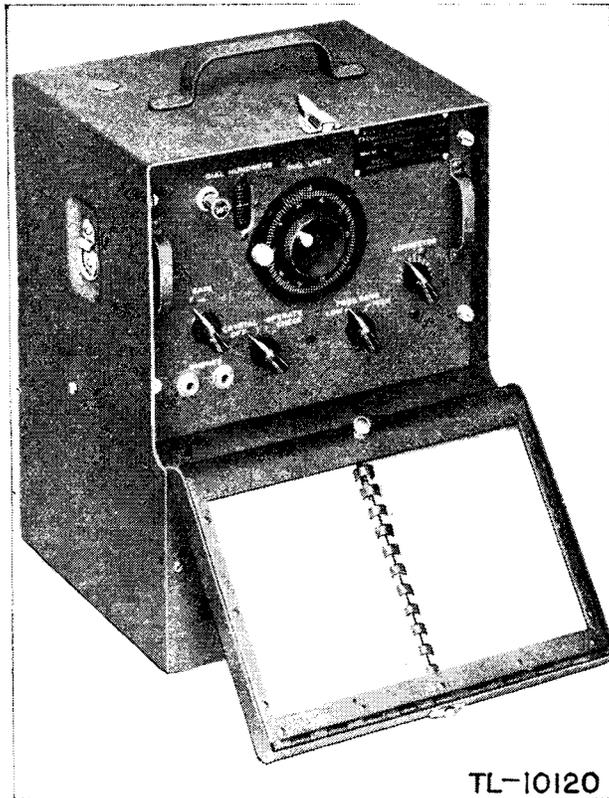
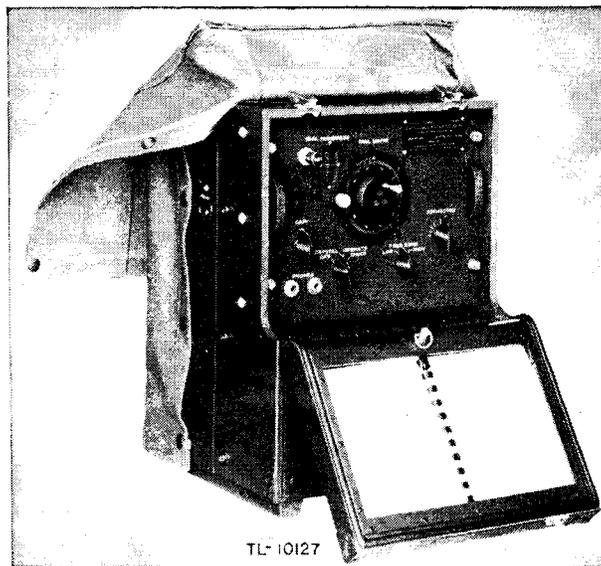

Figure 1. Frequency Meter BC-221-(E), in metal cabinet.
Figure 2. Frequency Meter BC-221-(E), in wooden cabinet.
b. The principal component of the set is Frequency Meter BC-221-(&), a heterodyne-type frequency meter, which is supplied in either of two types of cabinet: a black wrinkle-finished aluminum-alloy cabinet (fig. 1), or an olive-drab finished wooden cabinet. (See fig. 2.) The upper and largest compartment of the cabinet contains the frequency meter chassis and sometimes some of the spare parts. The next smaller compartment, at the bottom rear, contains the batteries. The smallest compartment, at the bottom front, contains either spare parts or the headset. (See figs. 19, 20, 21, and 25 for representative views.) A carrying handle and one or two snap latches are mounted on the top surface of the cabinet. Two small rings to which carrying Strap ST-19-A can be hooked, are mounted at the sides of the cabinet. The BC-221-Q, BC-221-AA, BC-221-AC, BC-221-AE, BC-221-AF, BC-221-AG, BC-221-AH, BC-221-AJ, BC-221-AK, and BC-221-AL frequency meters are normally supplied with the wooden cabinet. Some BC-221-Q and BC-221-AA frequency